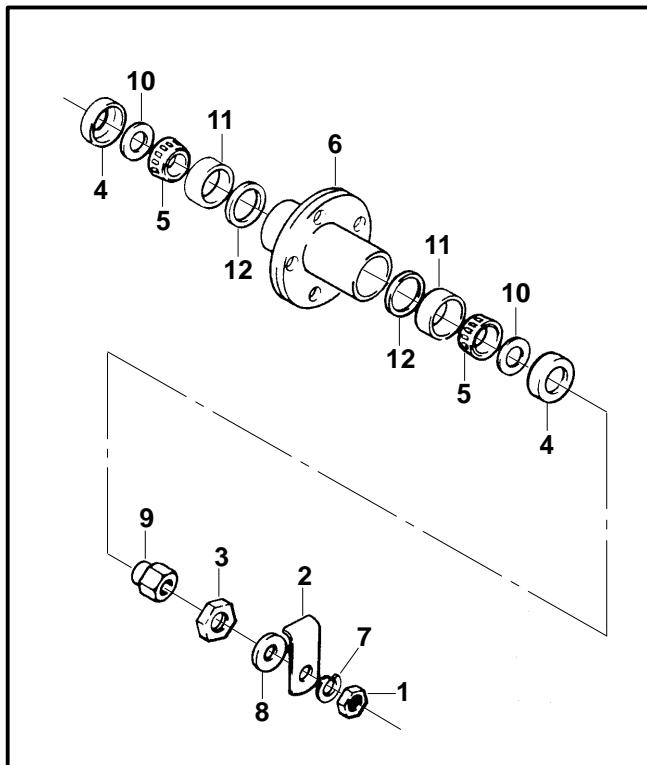

FIGURE 22
- Remove the front wheel and hub assembly by removing the axle nut, lockwasher and by rotating the axle lock to allow the axle assembly to slide from the fork sidearm assembly. Refer to Figure 22 on page 25.